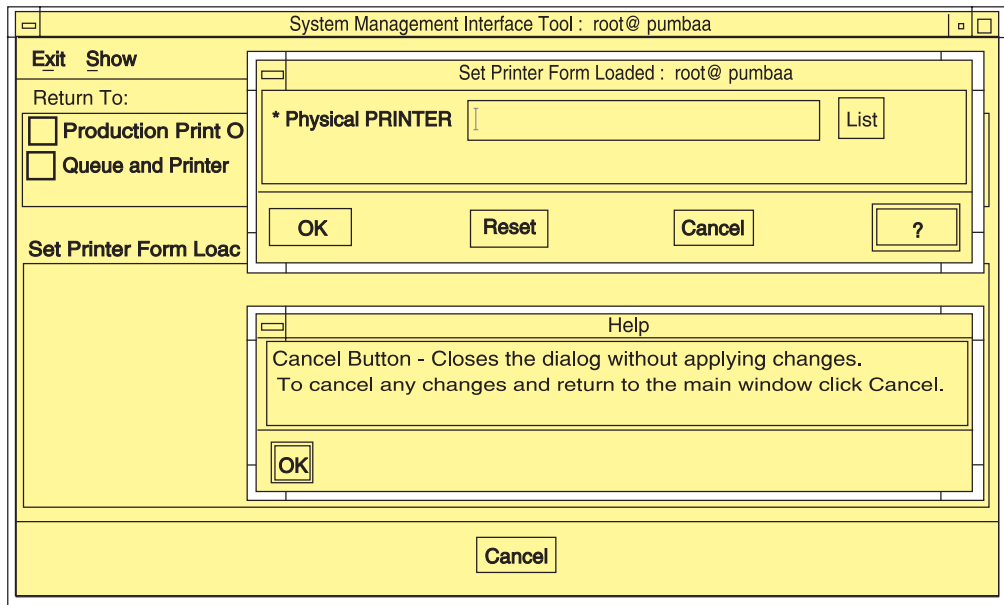

Figure 26. Help for SMIT Window Fields and Buttons
1. Select the button labeled with a question mark at the bottom right of the window. A **Help** window displays beneath the SMIT window. Figure 26 on page 68 shows the results of selecting the question mark button.